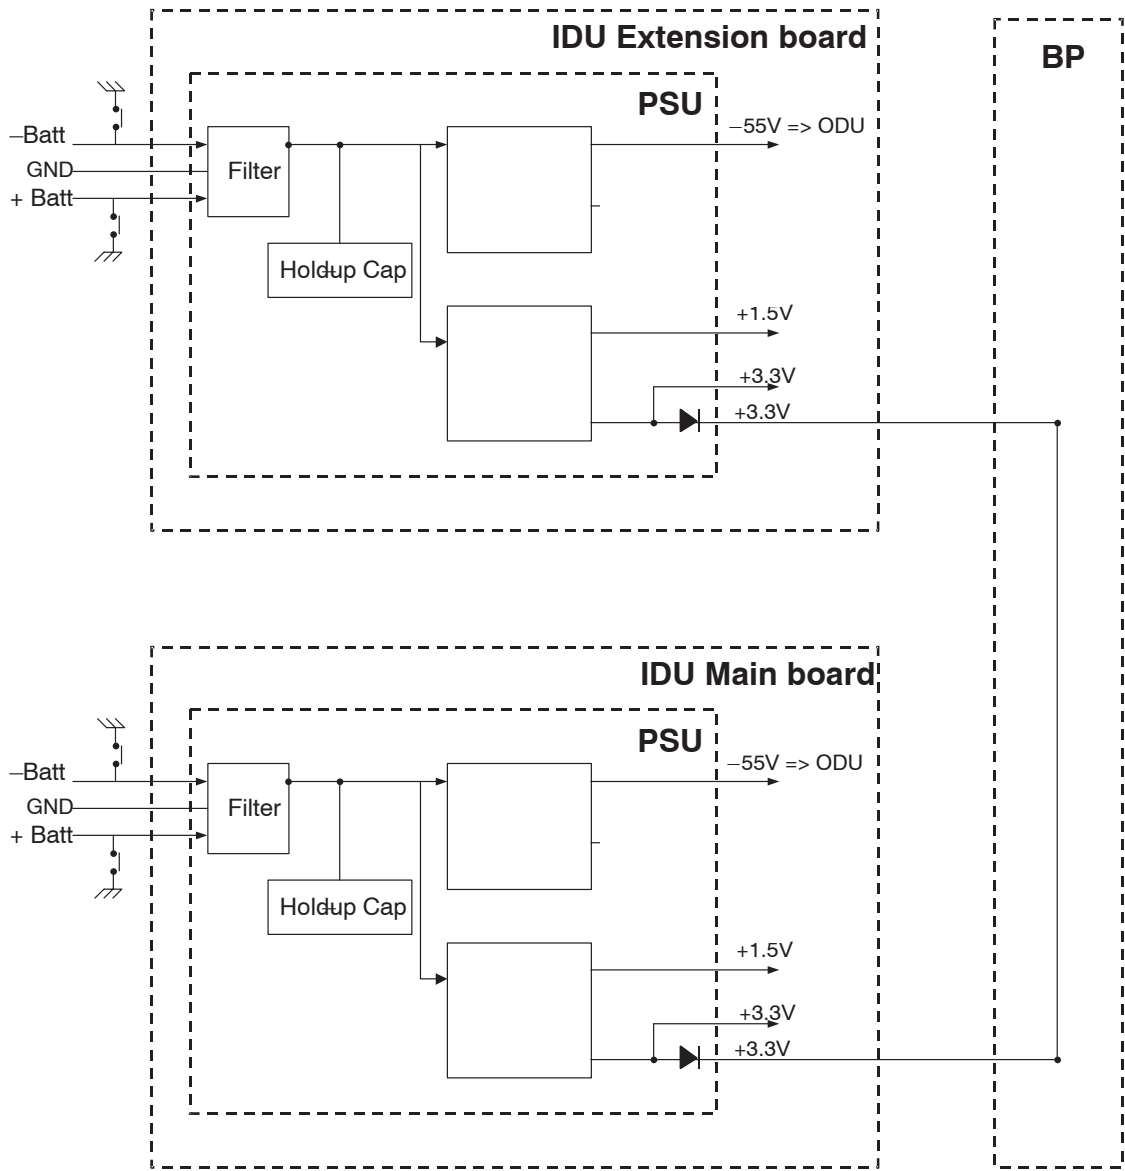

Fig. 71. Power distribution in 1+1 systems
- DC/DC converter plug-in board. It is a module including DC/DC converters and filters. The power distribution for 1+1 systems is shown in Fig. 71 on page 187 (in 1+0 systems the IDU extension board is not equipped).
- DC/DC converter plug-in board; Fig. 71. on page 187